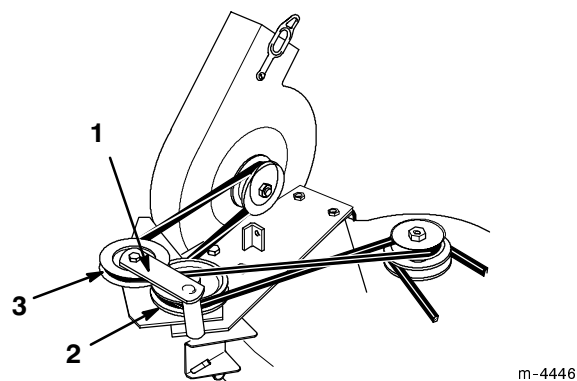

Figure 26
1. Open the latch and swing the blower out away from the mower, remove the blower belt from from the mower pulley (Fig. 26).